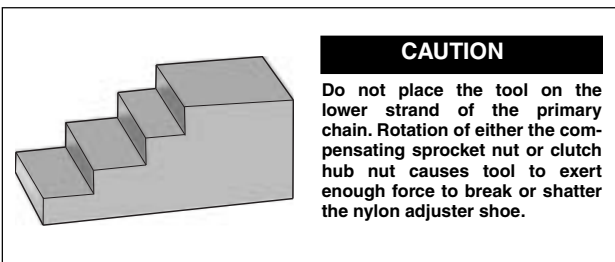

Figure 6-27. Primary Drive Locking Tool
11. Obtain the PRIMARY DRIVE LOCKING TOOL (HD-41214). See Figure 6-27.